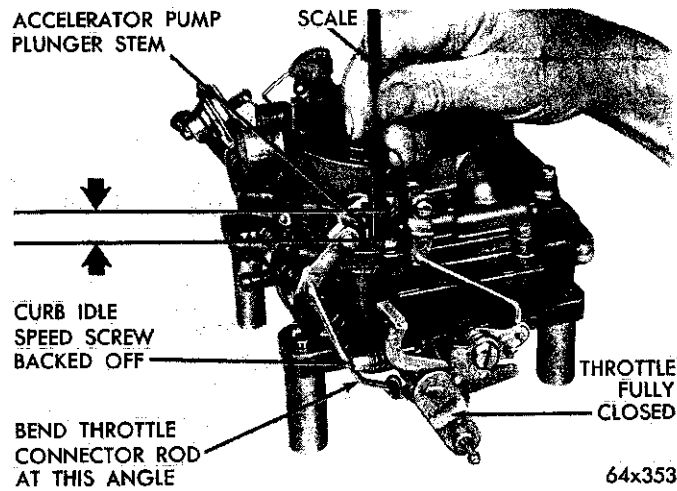

Fig. 18—Testing the Accelerator Pump Adjustment
(1) Move the choke valve to wide open position, to release the fast idle cam. Back off the idle speed adjusting screw, (curb idle) until the throttle valves are seated in the bores.
(2) Measure the distance from the top of the air horn to the top of the plunger shaft, using a "T" scale as shown in Figure 18. This distance should be 7/16 inch.
(3) If an adjustment is necessary, bend the throttle connector rod at the lower angle, using Tool T-109-213, until correct travel has been obtained.